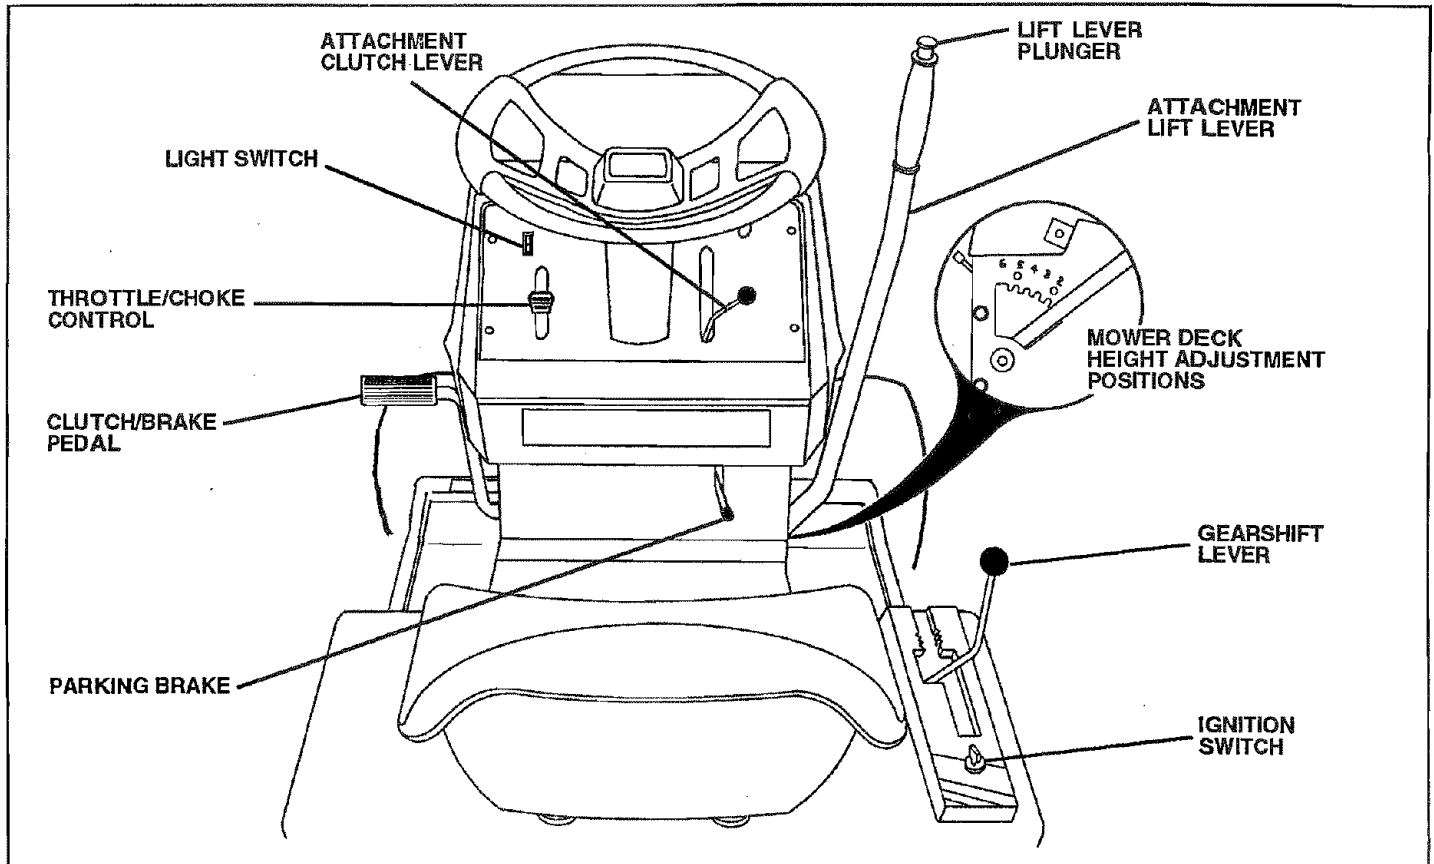

FIG. 8
- Slide seat until a comfortable position is reached which allows you to press clutch/brake pedal all the way down (See Fig. 8).
TO ADJUST MOWER CUTTING HEIGHT (See Fig. 8)